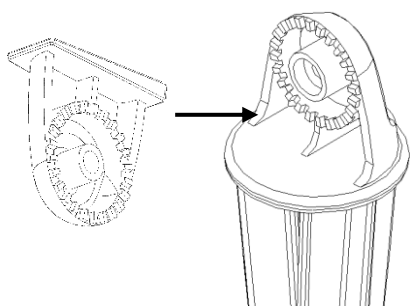

Fig. 1
1. Attach Part A to Part D or E (**Fig. 1**) and secure by screwing Part H clockwise into the threaded section.